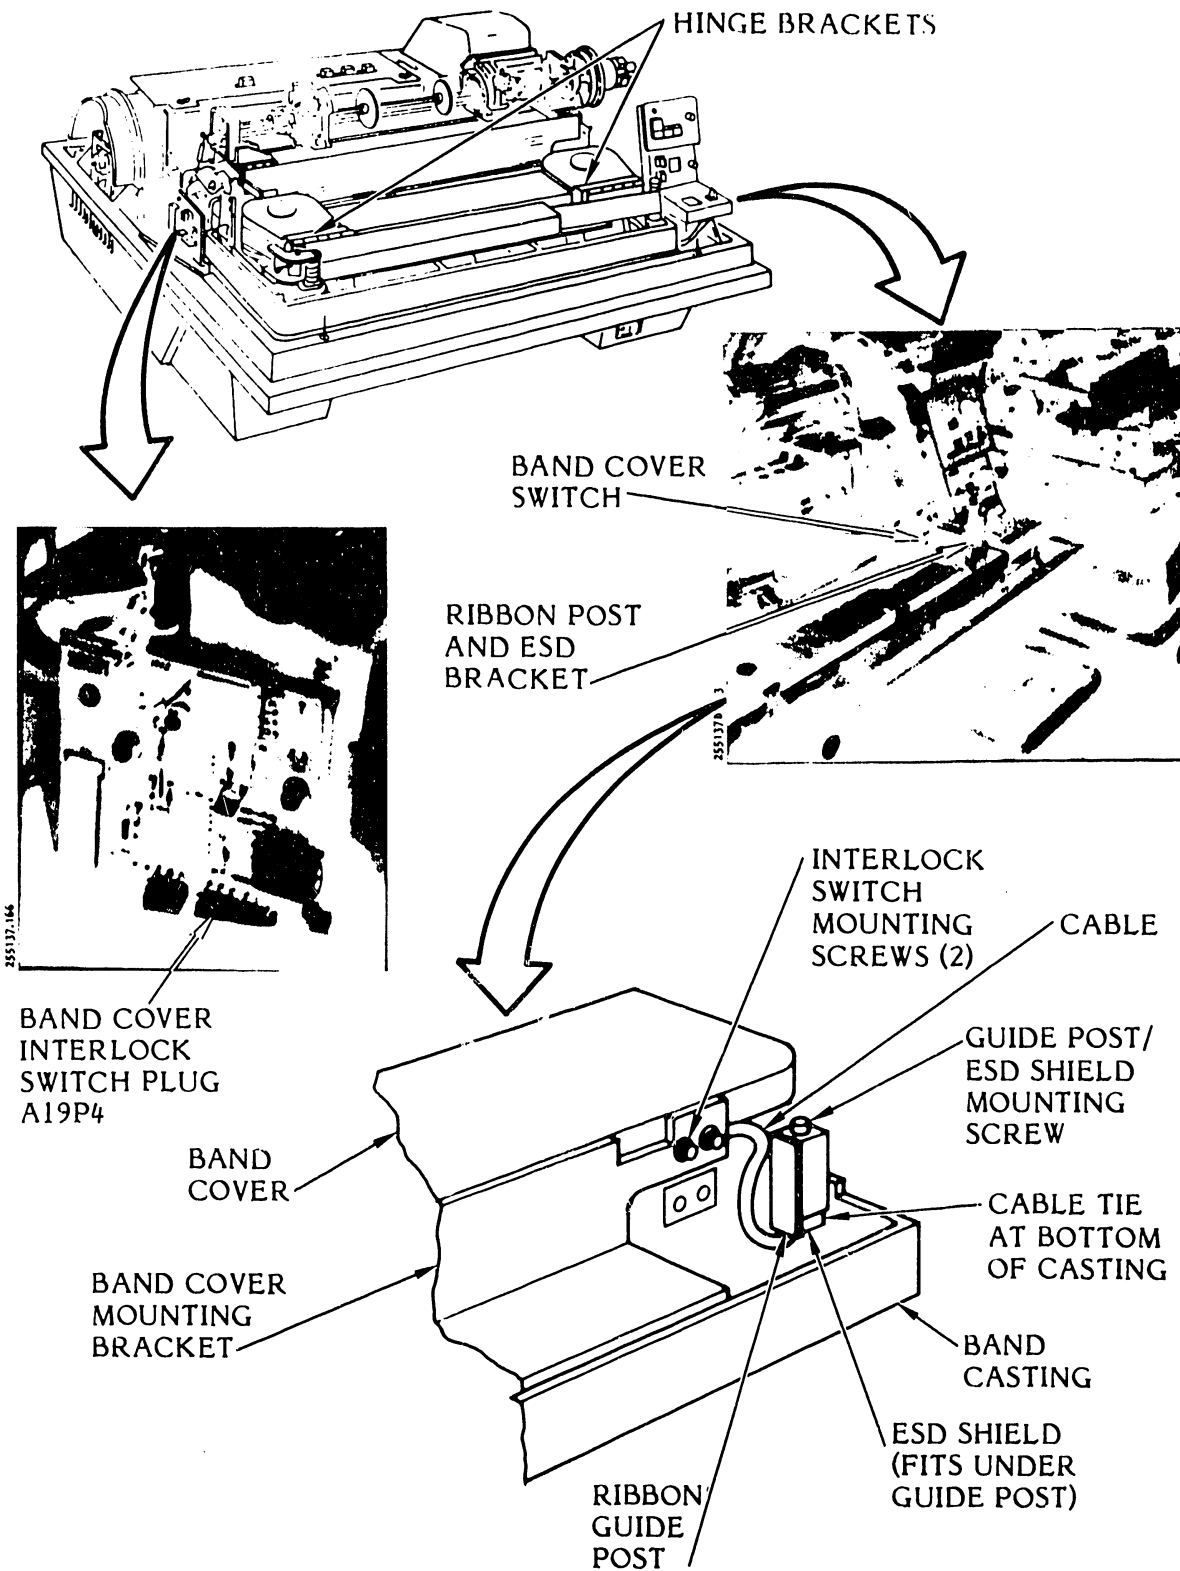

Figure 3-79. Band Cover Interlock/Ribbon Weld Skipover Assembly Removal/Installation
3.7.7 Band Cover Interlock Switch (Ribbon Weld Skipover Version) Removal/Installation (Figure 3-79)